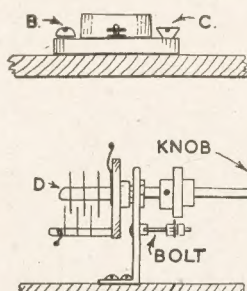

Fig. 2—Side view of panel mounting parts
at (F), Fig. 2. With a metal panel a small space (E) must exist between the bolts or rivets holding the fixed plates and the panel or the condenser will be shorted. A washer may be added on the inside to accomplish this, which is also desirable with wooden panels to assure the condenser is not distorted by pressure on these points.
Others go behind the panel, and a hole of suitable shape will need to be sawn out to accommodate the dial. These drives often have a bracket to hold the condenser, as shown in Fig. 2. It is only necessary to set the dial pointer at zero, open the condenser vanes fully, then tighten the screw securing the condenser spindle.